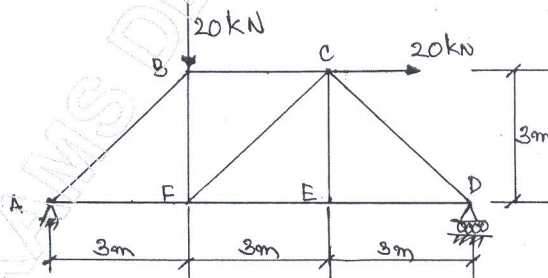

Fig.Q2
- 2 Determine the forces in all the members of the truss shown in the Fig.Q2 by the method of joints and verify the forces in members BC, CF and FE by the method of sections.